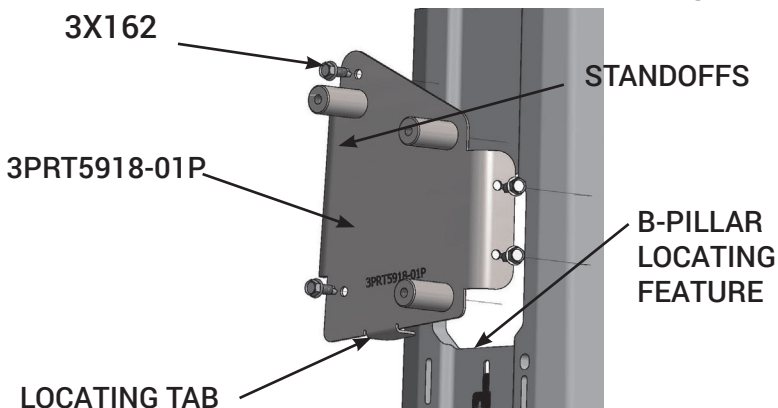

Fig. 2
- B. After the trim is removed, locate B-pillar bracket 3PRT5918-01P and mark the 4 holes to drill pilots with 3/16" drill bit. The B-pillar bracket flanges wrap around the pillar and is located vertically by the bracket tab and B-pillar cut-out (Fig. 2). Secure the B-pillar brackets to the driver & passenger sides of the vehicle with the self-tapping screws (3X162) (Fig. 2).